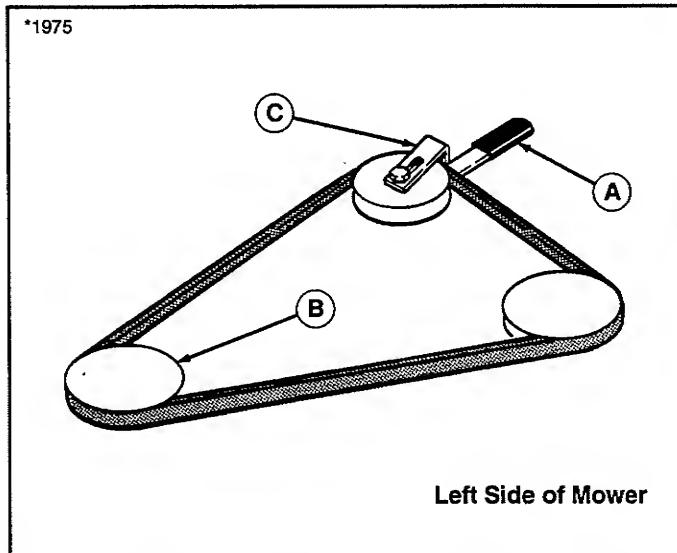

Figure 37. Mower Belt Routing - 44" Mower Deck
3. Push the idler arm (A, figure 37) away from you to relieve belt tension. Drop belt from the PTO (electric clutch) pulley.
6. Position the bracket belt stop (C, figure 37) up against arm (A) so that there is a $1/8$ " gap between pulley and belt stop.